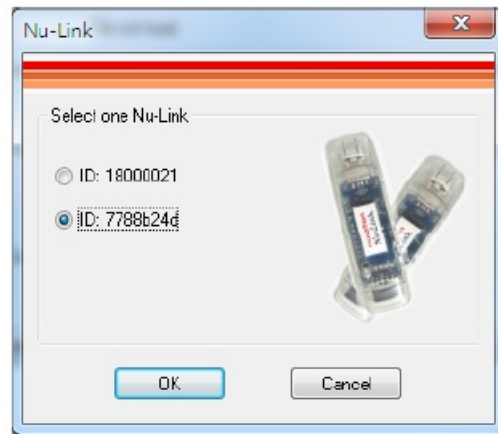

Figure 4-6 Select One Nu-Link Adapter
Step 5: If two Nu-Link Adapters have been connected with the computer, a message appears and asks to select one from the two adapters. Clicking OK will connect the selected adapter with the host, as shown in Figure 4-6. When a Nu-Link Adapter is selected for connection, the Status LED starts blinking. For the blinking details, refer to the Status LED description of the “Select a Nu-Link Adapter to connect with the host” in Table 2-4.